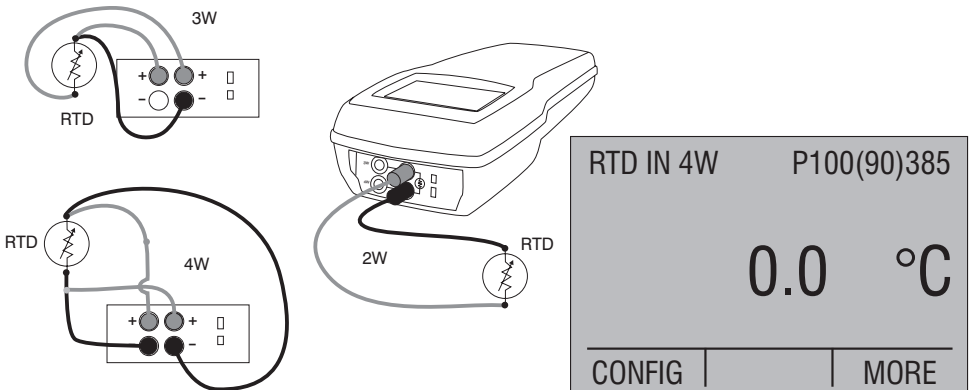

Figure 6. Measuring Temperature with RTD Connection
5. Attach RTD leads as shown in Figure 6.